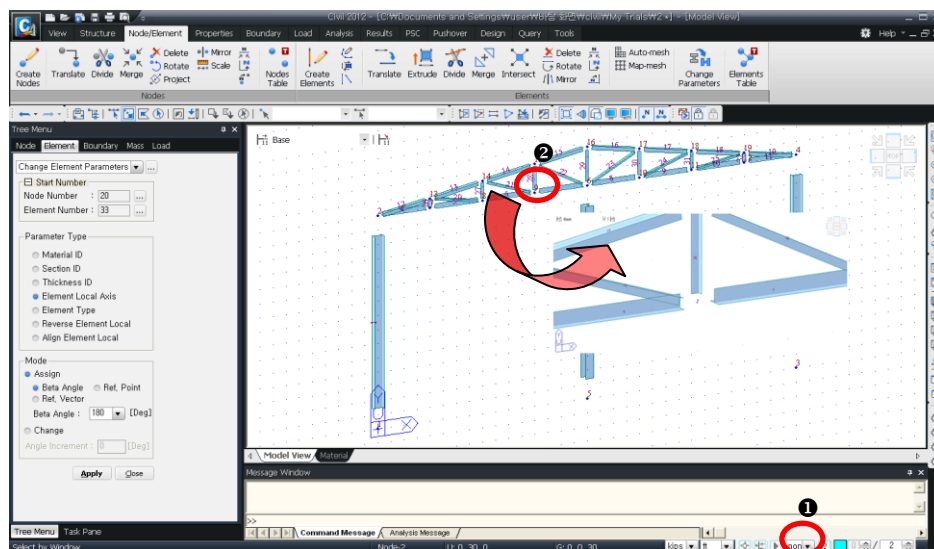

Figure 2.7 Switching the Bottom Chord Beta Angle
The T-shape section members are used for the bottom chord of the roof truss (Fig.2.7– ②) and the section is non-symmetrical about the strong axis. Click  **Iso View**,  **Shrink**, and  **Zoom Window** to magnify the bottom chord of the truss. Observation of the section of the bottom chord will show that the web is oriented downward.
It is easier to select the bottom chord if 'x' is selected in the Filter field (Fig.2.7- 1).
7. Magnify  shown in Fig.2.7 to confirm the orientation of the bottom chord.